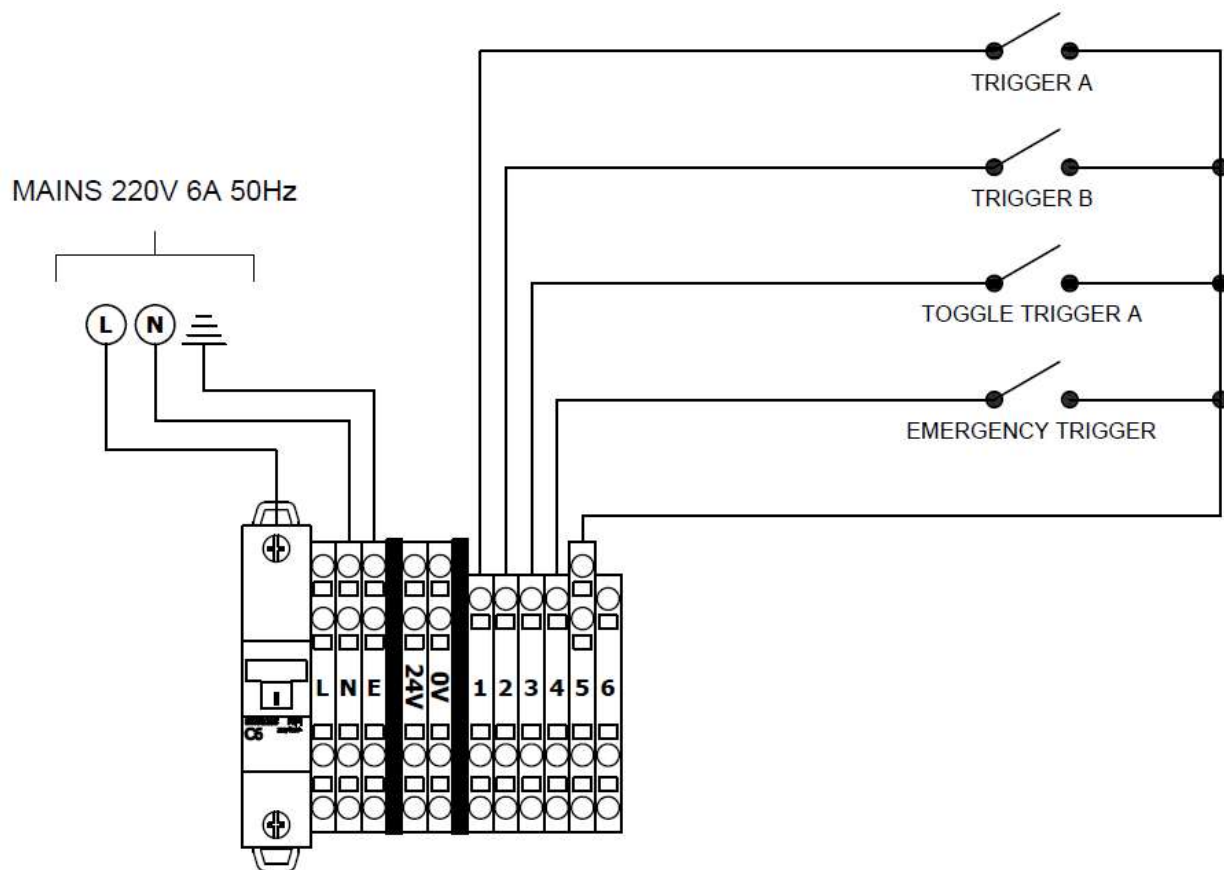

Figure 8: Trigger connections
- 3.3. Connect 220v AC live power as shown in the diagram *Figure 8*: